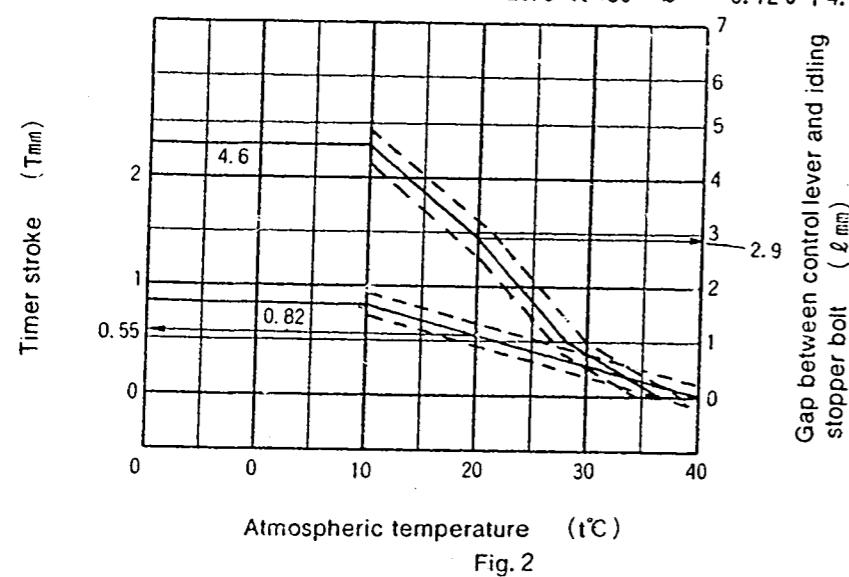

Fig. 2
1. Calculate the timer stroke from Fig. 2 according to the atmospheric temperature at the time of adjustment.
Formula for calculating Fig. 2 $10 \leq t \leq 20 \quad T = -0.027t + 1.09$
1. Calculate the block gauge dimension $l \pm 0.05\text{mm}$ from Fig. 2 according to the atmospheric temperature at the time of adjustment.
2. Insert the block gauge (thickness gauge) selected in Step(1) above between the bracket and the idling stopper bolt.